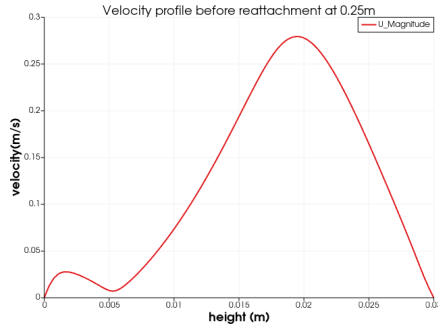
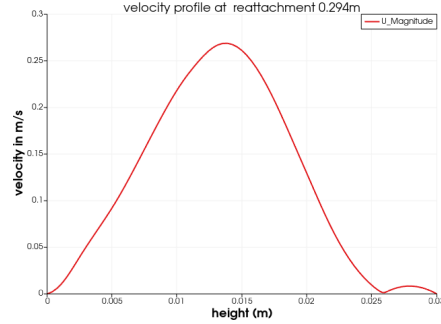
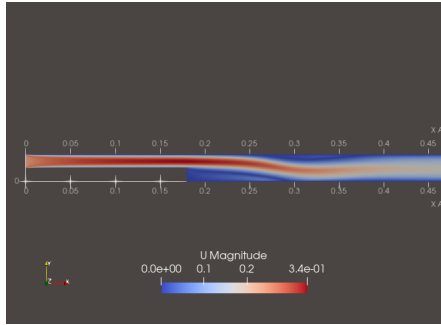

Figure 7: Velocity profile before A\*
Figure 10: velocity @ A\* for K-omegaSST
Figure 11: BFS for K-omegaSST model
**Question3.** Ooh now comes the exciting part. Velocity profiles obtained while running K-epsilon model (fig 7,8,9) and K-omegaSST model (fig 10) are displayed below:
- **In Fig 7** which is before  $A^*$  (0.25 m) we get quite a rise and dip in velocity initially due to the recirculation region. The velocity is higher in the middle of the vertex, this is signified by the small bump in velocity initially. due to **no slip boundary condition** velocity at the boundary is 0 m/s and at approx 0.019 m it is highest as the flow passes at high velocity through there. as shown in the figures 11 and 12
- **In Fig 10** which is @  $A^*$  (0.295 m) as per K-omegaSST model due to no slip boundary condition velocity at the boundary is 0 m/s and at approx 0.019 m it is highest as the flow passes at high velocity through there. you
will observe a small a bump at the right side this time. This is due to as K-omega is a good solver for turbulent flows it also simulated a recirculation zone on the wall above the flow (which you can observe in fig 11,12 ) this causes the bump like in fig 7 , same case..quite interesting right?